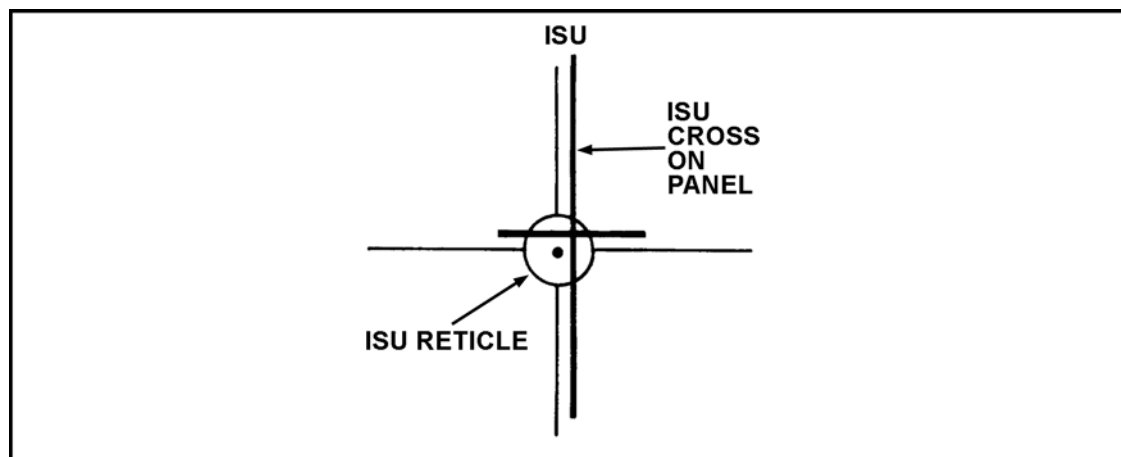

Figure B-55. Drift within 1-mil circle.
- (1) The drift standard is met if the ISU cross of the panel falls on or within the 1-mil circle in the ISU reticle (Figure B-55).
- (2) Notify unit maintenance if the ISU cross of the panel falls outside the 1-mil circle of the ISU reticle.